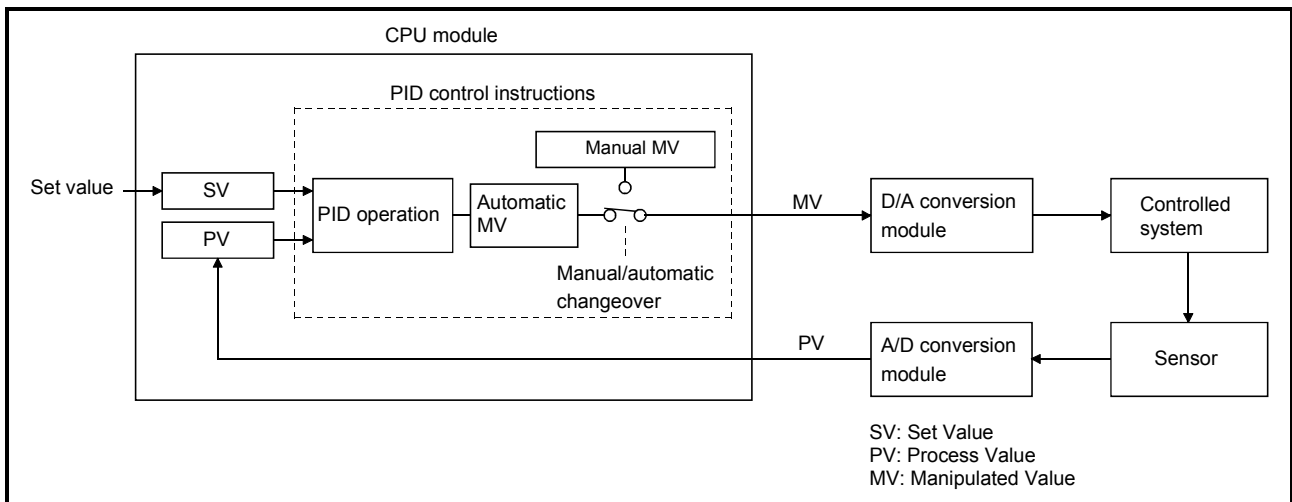

Figure 1.1 Overview of PID Control Processing
Execute PID control with PID control instructions by loading an A/D converter module and a D/A converter module, as shown in Figure 1.1.
In the PID control processing method, as shown in Figure 1.1, the PID operation is executed using the set value (SV) and the process value (PV) read from the A/D converter module, and the manipulated value (MV) is then calculated.